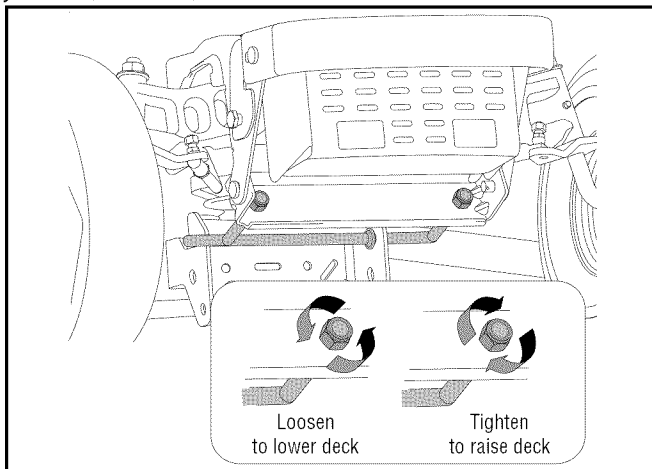

Figure 10
- Locate the lock nut on the front side of the stabilizer bracket. See Figure 10. Tighten the lock nut to raise the front of the deck; loosen the lock nut to lower the front of the deck.